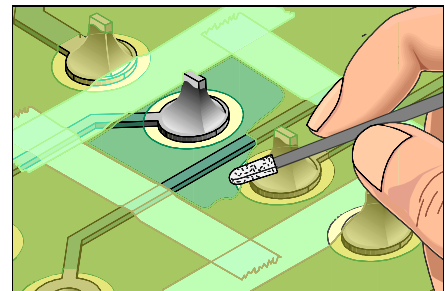

Figure 2: Apply solvent with a foam swab to remove coating.
2. Dip the end of a foam swab in stripping solution and apply a small amount to the coating to be removed. (See Figure 2)